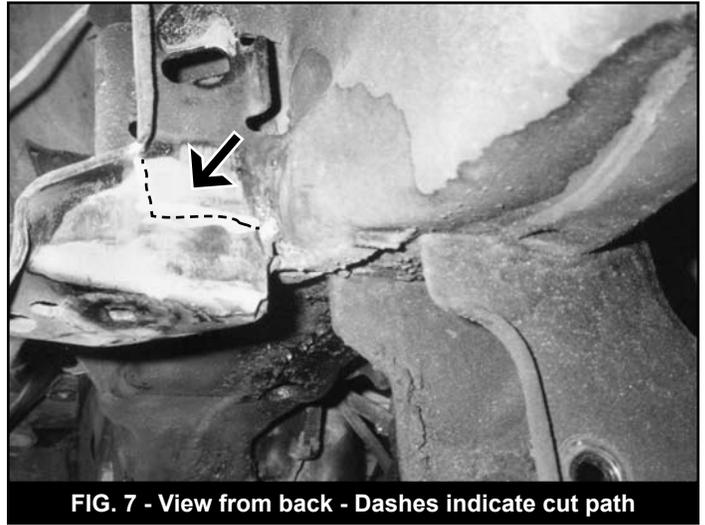

FIG. 7 - View from back - Dashes indicate cut path
20. On the back surface, start a cut flush with the bottom of the frame and cut upward about 3/4". From that point cut horizontally outward about 2". Cut again down the bracket to meet the horizontal cut. (Fig. 7)